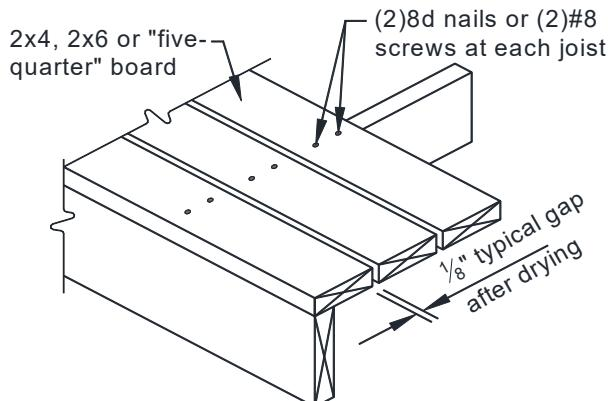

FIGURE 1: TYPICAL DECKING
- Wood decking shall be attached per FIGURE 1. If installed wet, place decking with no gap so after drying a $\frac{1}{8}$ -inch gap is created. The use of hidden fasteners and similar attachment devices are permitted only if supplemental bracing is installed beneath the joists – see the next page.